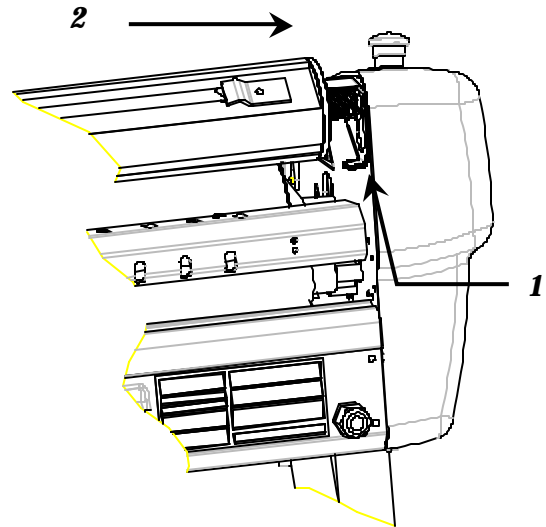

Figure 9
- Remove the desired unwind shaft (2), top or bottom by pushing the interlock bracket (1) in the upper position and sliding the unwind shaft to the right against the spring pressure. (Figure 9)
- Place the unwind shaft (2), top or bottom including the material, into the laminator by inserting it onto the left-hand unwind shaft holder.
- Push the interlock bracket (1) upward with your finger before sliding the unwind shaft further. (Figure 9)